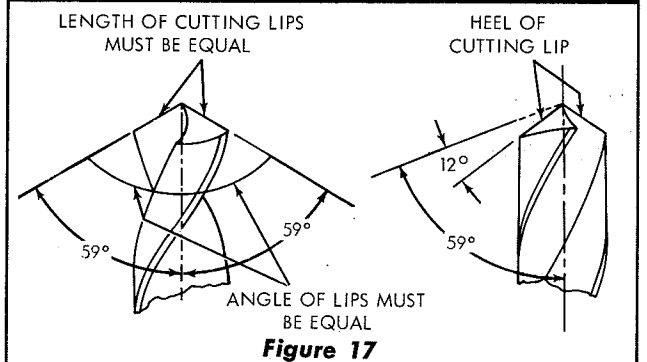

Figure 17
3. Drill Sharpening. (See figure 17.) When grinding twist drills, extreme care should be exercised, in order to maintain the efficiency of the drill. **The dead center of the point must be maintained, that is, both cutting lips must be the same length. Also, the angle of cutting lips in relation to the center-line of the drill must be equal.** The angle should be approximately 59 degrees (118 degrees included) for metal, and 30 degrees (60 degrees included) for wood. The cutting lip should be relieved gradually behind the cutting edge so that the clearance at the heel is approximately 12 degrees.